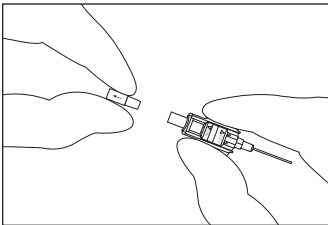
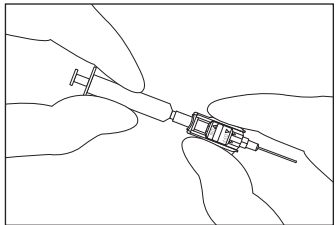

Figure 6
Figure 7
8. Confirm instant blood return up the catheter once the vessel is accessed. Blood return should continue into the blood return chamber. For continuous blood return, remove the vent plug (see Figure 6) and attach a syringe (see Figure 7).